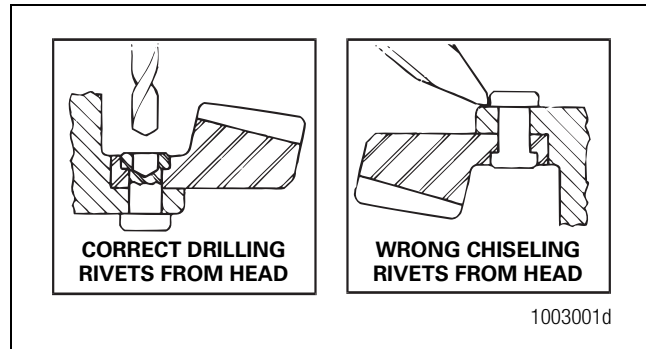

Figure 3.19
- Carefully center punch each rivet head in the center, on the ring gear side of the assembly. Do not use a chisel and hammer. Figure 3.19.
- Drill each rivet head on the ring gear side of the assembly to a depth equal to the thickness of one rivet head. Use a drill bit that is 0.03125-inch (0.79375 mm) smaller than the body diameter of the rivets. Figure 3.19.